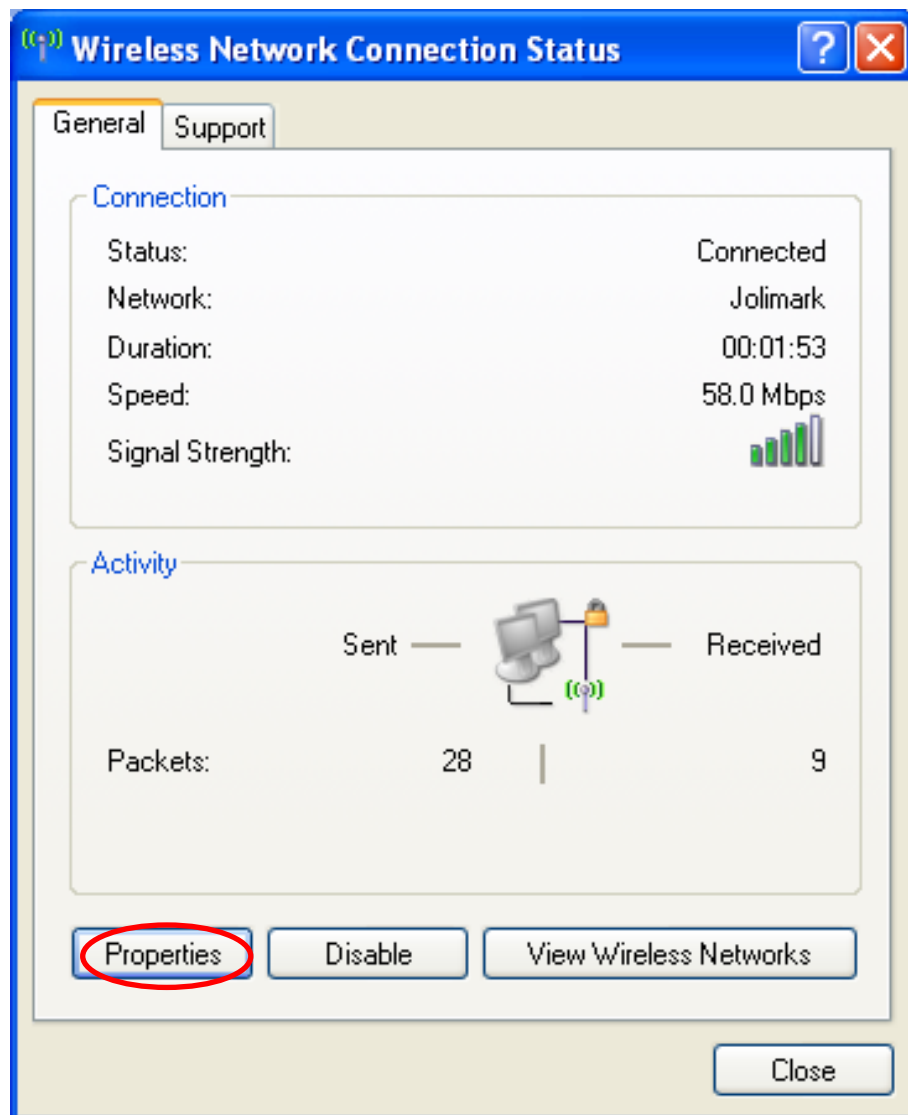

Figure 9
- ② The dialog box "Wireless Network Connection Status" pops up, then click "Properties" (as shown in Figure 9).